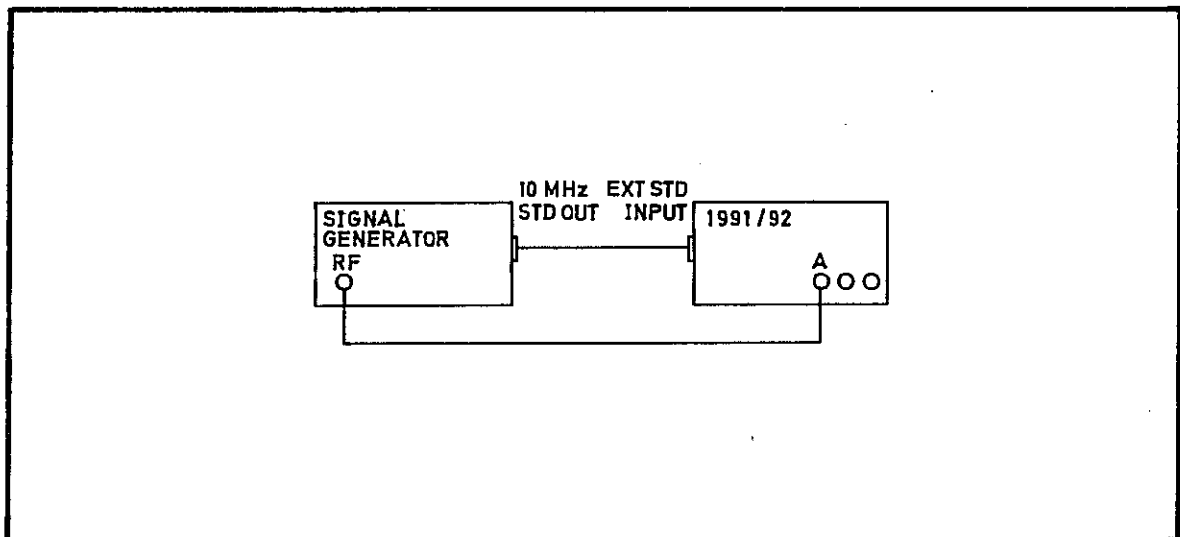

Fig 7.10 Connections for Channel A Input System Adjustment
- 30 (1) Switch the 1991/92 on. Select FREQ A.
- (2) Select  $50\ \Omega$  impedance for channel A.
- (3) Press the RESOLUTION  $\downarrow$  key five times, until 000 is displayed.
- (4) Connect the test equipment as shown in Fig 7.10.
- (5) Set the signal generator output to 100 MHz at a level of 3.0 mV r.m.s.
- (6) Verify that the EXT STD indicator is lit, and that the channel A TRIG indicator is flashing.
- (7) Adjust R192 to obtain the most stable display indication of  $100.0 \underline{6} \pm 0.1 \underline{6}$ , with the GATE indicator flashing.